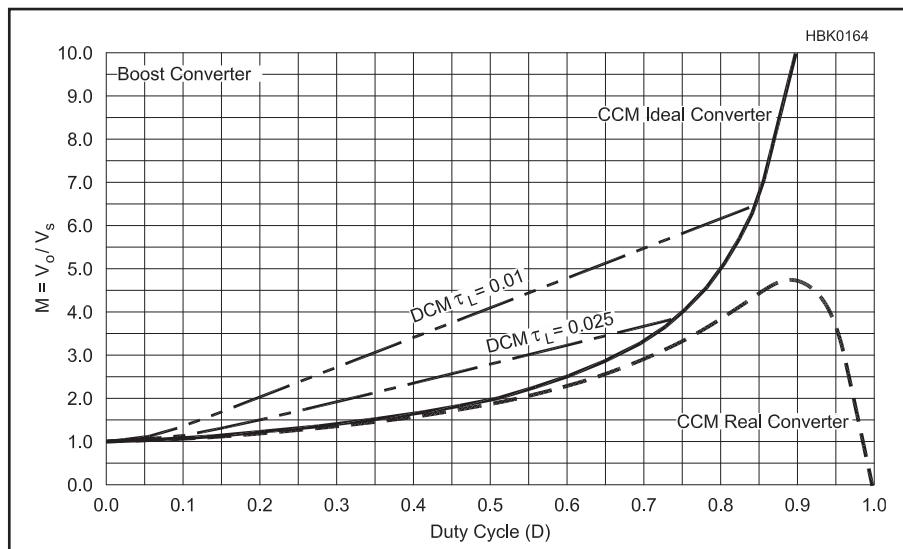

Fig 7.34 — DC control characteristic for a boost converter. $M = V_o/V_s$, D = duty cycle of Q1 and $\tau_L = f_s (L/R)$.
When Q1 is ON (Fig 7.33B), L is connected in parallel with the source (V_s) and energy is stored in it. During this time interval load energy is supplied from C. When Q1 turns OFF (Fig 7.33C), L is connected via D1 to the output and the energy in L, plus additional energy from the source, is discharged into the output. The value for L, V_s and length of time it is charged determines the energy stored in L. Again we have the possibilities that either some (CCM) or all (DCM) the energy in L is discharged during the OFF-time of Q1. The variation in the ratio of the output-to-input voltage (M) with duty cycle is shown in Fig 7.34.
There is also another very important practical effect of this limitation on the peak value for M. When the duty cycle is increased beyond the point of maximum M (this occurs at $D=0.9$ in Fig 7.34), the sign of the slope of the control function changes so that the control loop will change from negative feedback to
This graph closely resembles that for the boost converter (Fig 7.34) with one important exception: |M| begins at zero. This allows the magnitude of the output voltage to be either below or above the source voltage, hence the name “buck-boost.”